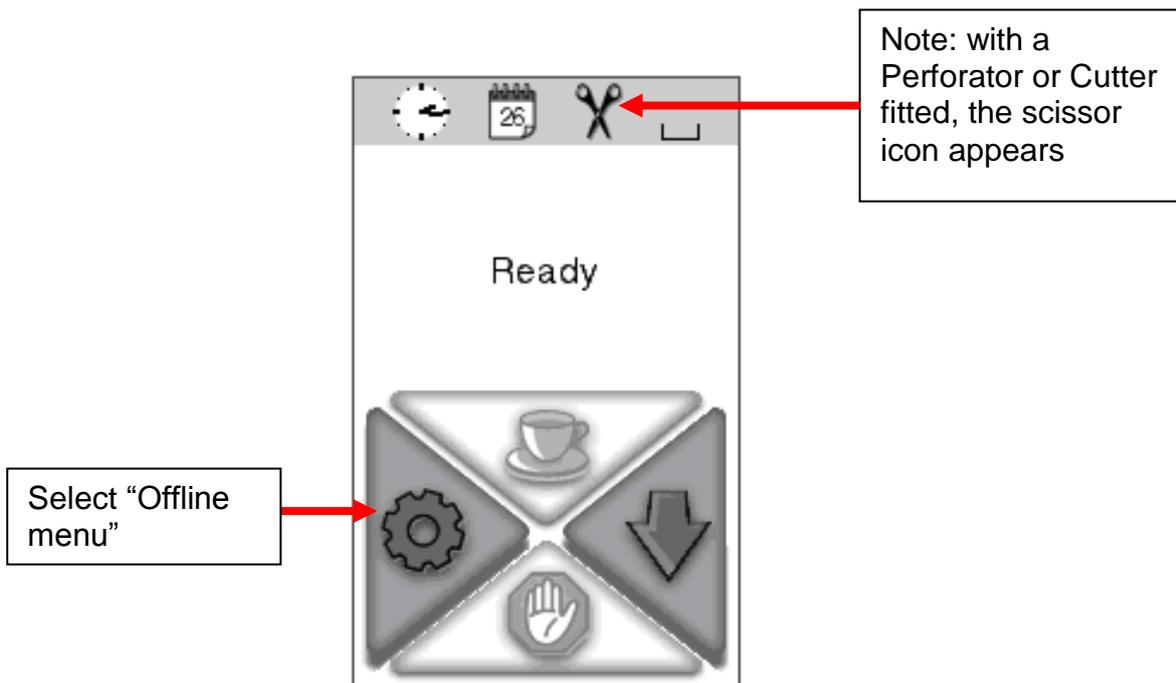

Figure 1, "Ready screen".
3. Switch the power on and wait until the "Ready screen" in Figure 1, is shown on the touch screen display.
12. Select the “back icon”,  which will take you directly to the “Ready screen”, shown in Figure 1.
13. When the ready screen shown in Figure 1, is displayed the printer is setup ready to perforate. You may have to return to the Menu shown in Figure 6, to refine the quality of perforation according to size and type of tube.